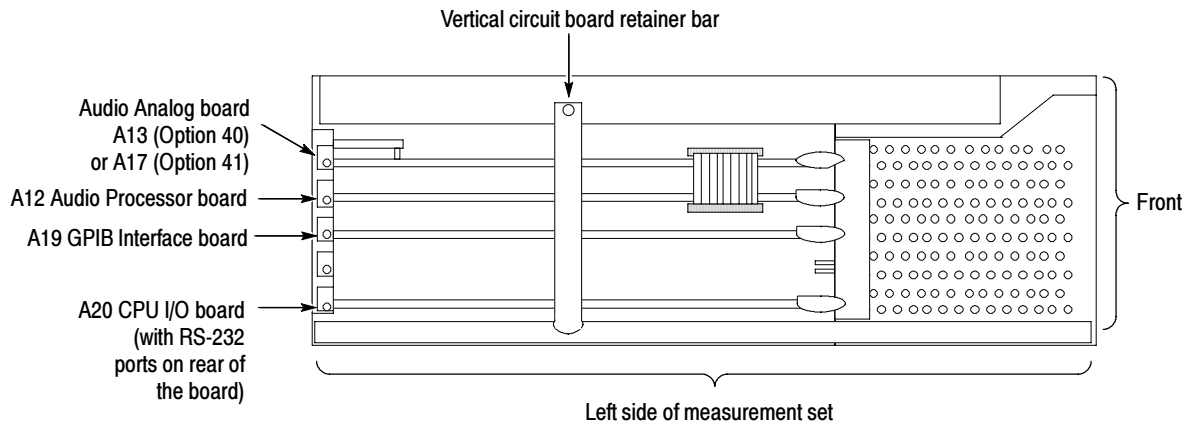

Figure 17: Locating the audio option boards in the left-side card cage
2. Unplug multiconductor cabling between the top and second circuit board as shown in Figure 17.